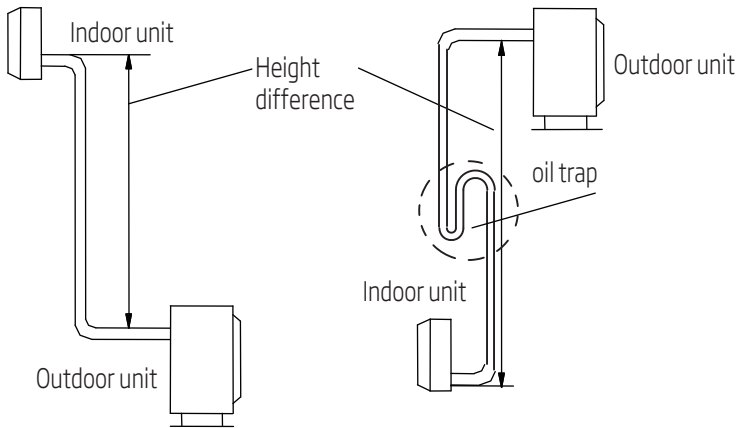

Fig. 3
- If the installation position of the outdoor unit is higher than indoor unit and the tubing is longer than 10m, added a oil trap on the gas tubing for every 8m. (Fig. 3)